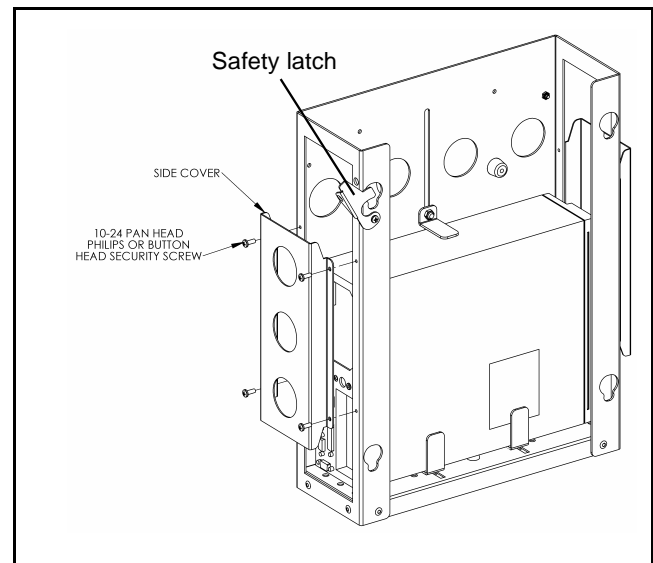

Figure 8
9. Using 10-24 pan head Phillips or button head security screws (I or H), secure side covers. (See Figure 8)